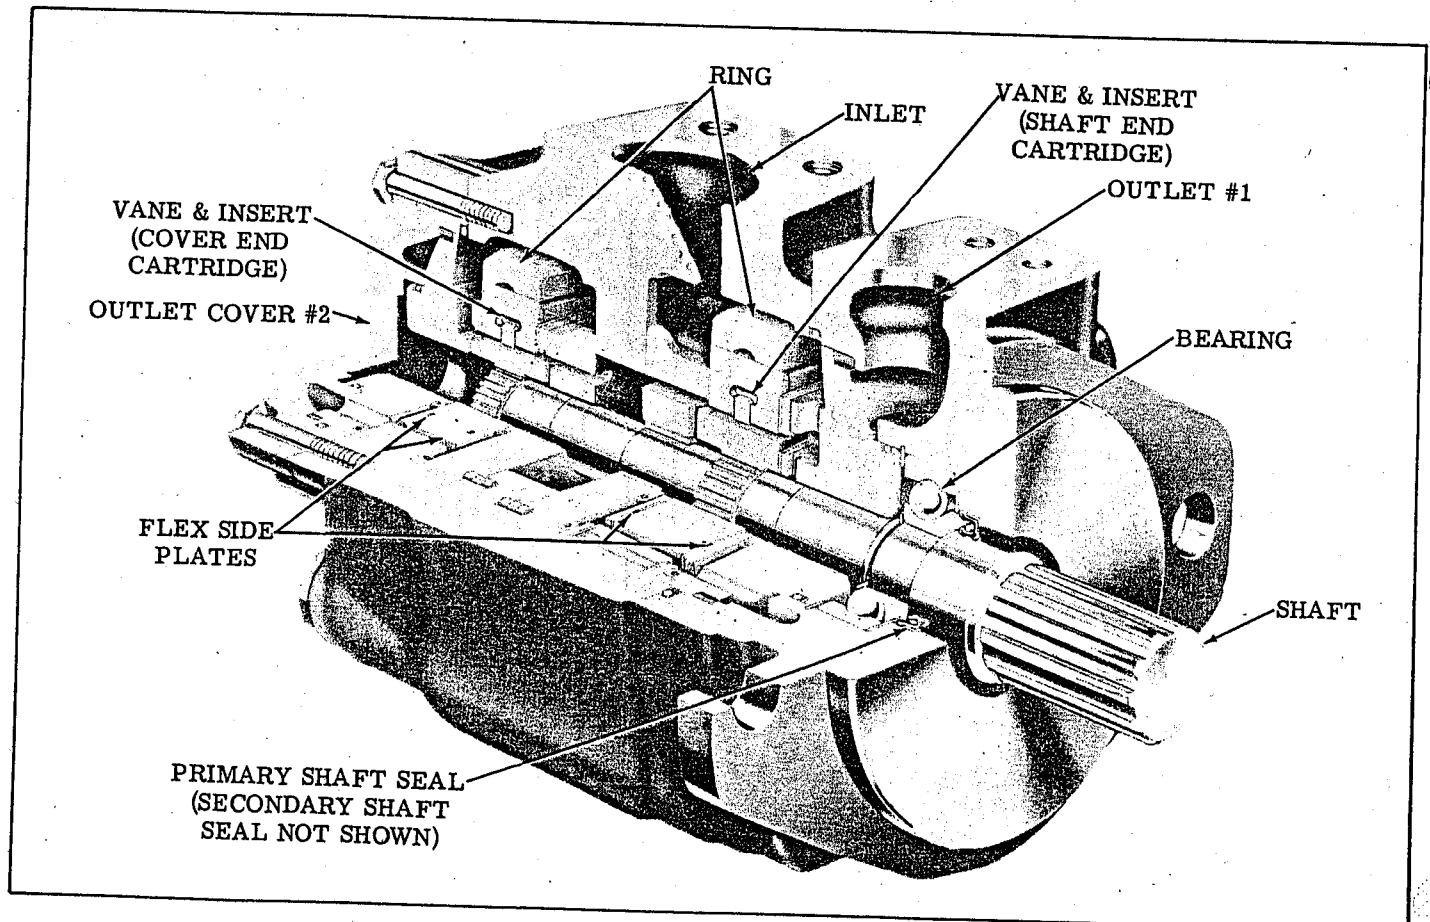

Figure 1. Cutaway View of Typical Double Pump.
1. Basic Pumps: The pump illustrated in Figure 1 is representative of all double pumps in this series. The pump consists principally of an inlet housing, two outlet bodies, a drive shaft and two pumping cartridges. The principal components of a cartridge are an elliptical cam ring, a slotted rotor splined to the drive shaft, an inlet and outlet support plate fitted with four special seal pack subassemblies, two flex side plates, and ten vanes and inserts fitted to the rotor slots. Fluid enters the cartridge through the inlet port and is discharged
An additional inlet fluid path exists through a drilled hole in the cam ring. This hole connects the inlet port directly to the inlet areas of the cam ring and provides an additional flow path for fluid to get into the cartridge. See Figure 1 and 15.